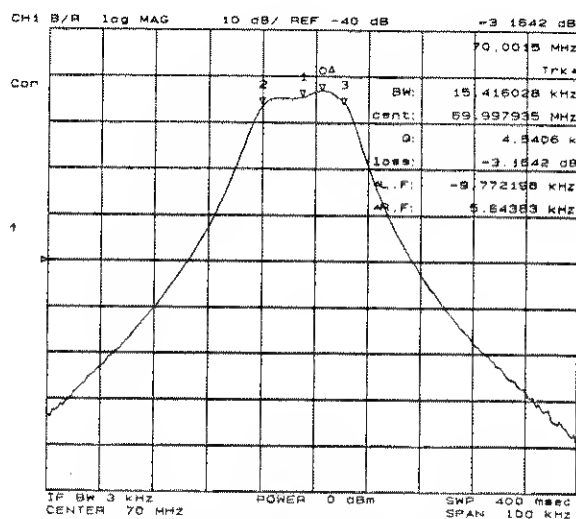

Figure 5-1.
The sub-markers appear at a specified level down on both sides of the reference marker and the center of the two sub-markers, as shown in Figure 5-1. The bandwidth (BW), center frequency (cent), Q factor (Q), insertion loss (loss), and left and right hand bandwidth from the center frequency (ΔL.F and ΔR.F) are displayed on the upper right of the grid.